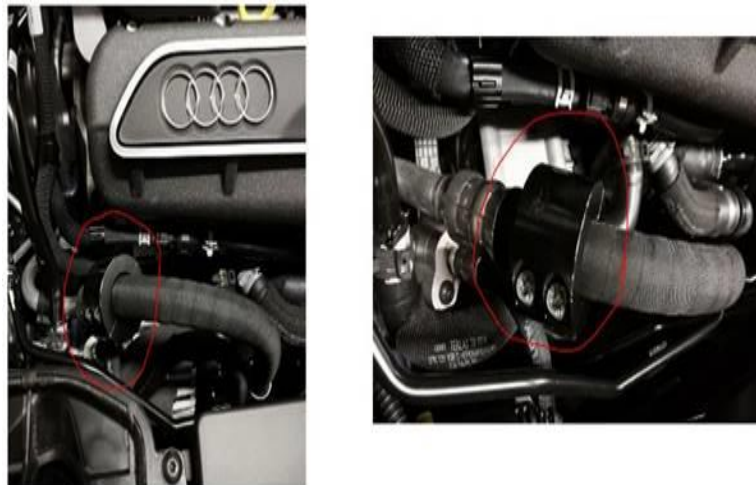

Figure 1. Balance weight positioning on the low side refrigerant line.
1. Install balance weight part number 5Q0 820 899 on the refrigerant line (Figure 1). Install the balance weight using 2 bolts part number WHT 003 121. Apply medium strength thread locking compound to the bolts such as locking fluid D 185 410 A2.